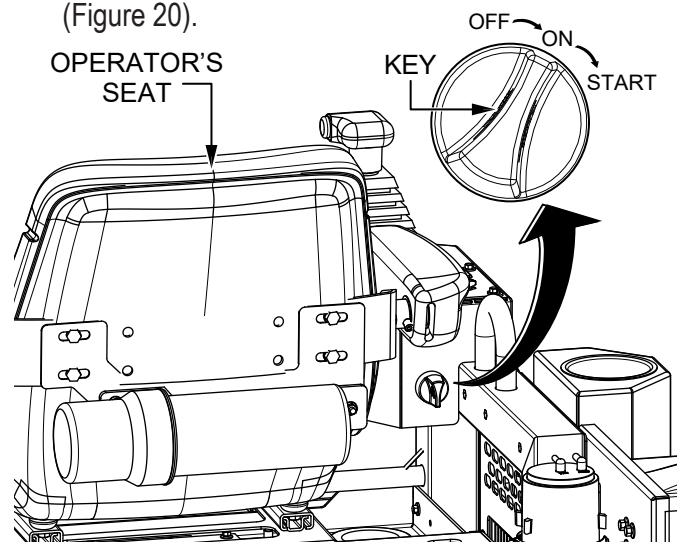
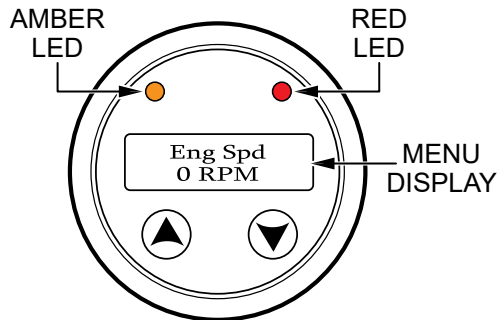

Figure 20. Ignition Key Switch
Figure 21. Diagnostic Display
1. Insert the **ignition key** into the **ignition switch** (Figure 20).
2. Turn the ignition key **clockwise** to the **ON** position (Figure 20). The **AMBER** and **RED LEDs** on the **diagnostic display** (Figure 21) will flash and the **menu display** will cycle through the preset parameters until the engine is started.
5. The diagnostic display's amber and red LEDs (Figure 21) will turn **OFF** if no engine or machine faults are present.